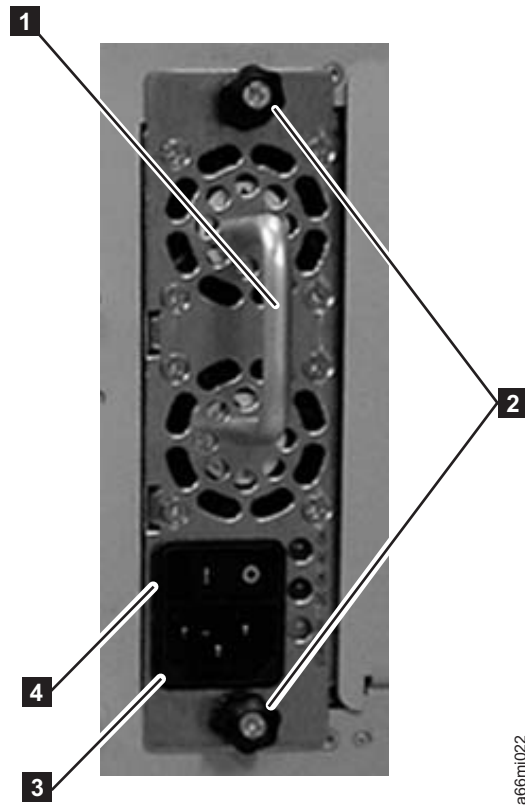

Figure 4-4. Power Supply
1. Loosen the two thumb screws (**2** in Figure 4-4) on the power supply by turning them counterclockwise.
2. To remove the power supply, grasp the handle (**1** in Figure 4-4) and slowly pull it toward you, while supporting it from underneath.